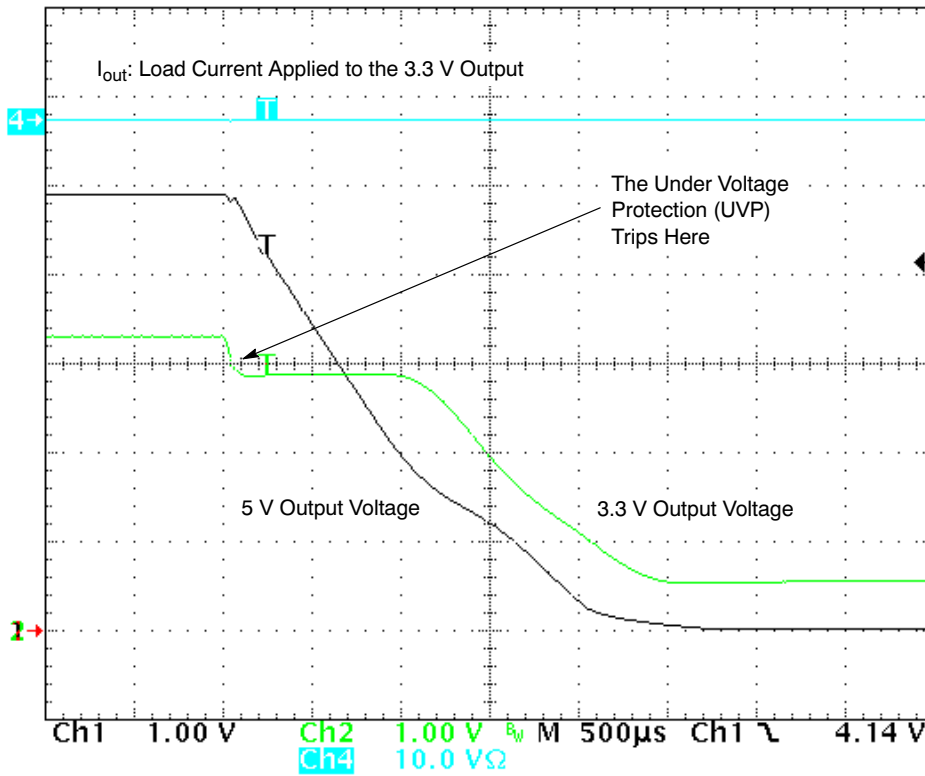

Figure 17. Stop Sequence (No Load on the 3.3 V Output)
- 10 A (Figure 16) and 0 A (Figure 17) on the 3.3 V output.
In no load condition (Figure 17) there is a third phase. More specifically: